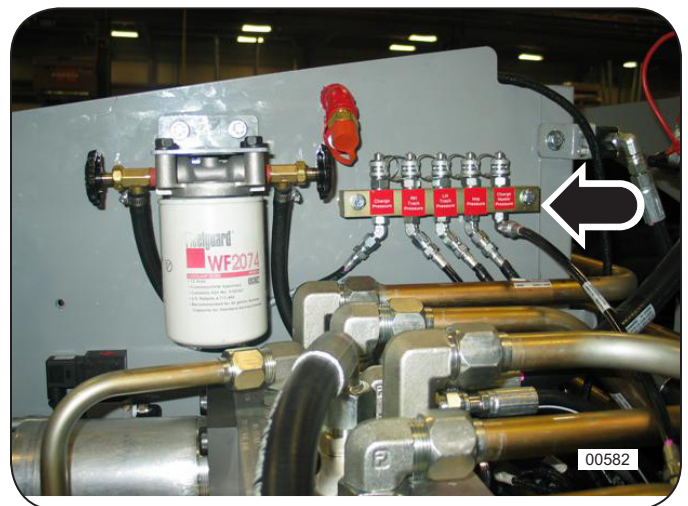

Figure 4: Drive Pump Pressure Gauge Port Tap
3. Connect the 10,000 psi pressure gauge, with the quick-couple adapter attached, to the gauge port tap provided on the centralized pressure check manifold. See Figure 4.